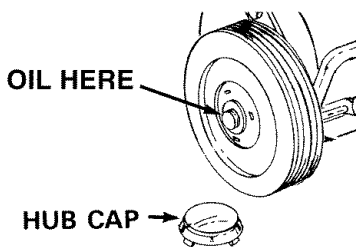

FIGURE 22
- Lubricate the wheel bearings once every season with a few drops of light weight oil. See figure 22.